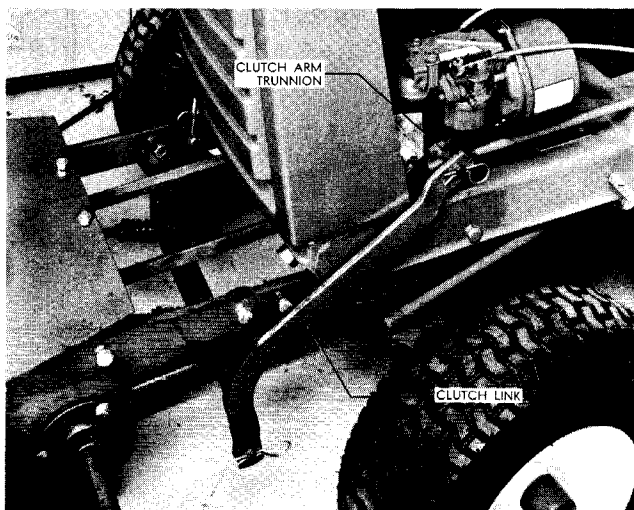

FIGURE 5
5. Remove the trunnion from the tractor clutch arm and replace it with the double studded trunnion provided. Connect the clutch link to the trunnion as shown in figure 5.